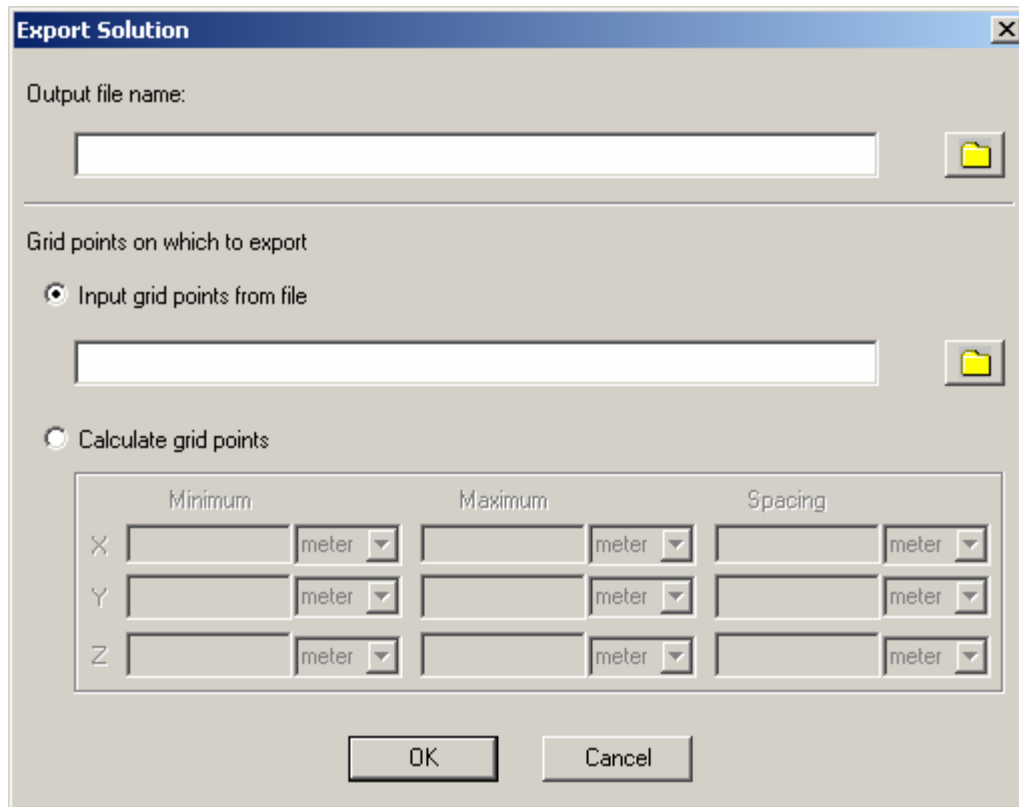

Fig. CF2 Define the size of the export region (box) and spacing within
- ▲ **Export... -> On Grid** (then fill in the data as appropriate, see Fig. CF2)